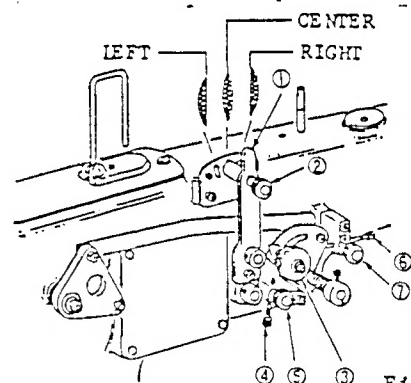

Fig. 16
To set the selector lever (1) in desired setting, pull back knob (2), Fig. 16, and move selector lever (1) to either left or right until the selector lever pin clicks into the hole in the needle position plate.
Stop screw is used to control the width of wider zigzag stitch and is locked in position with set screw (5) after setting to maximum width desired. (Fig. 16)
To set the machine for constant width zigzag stitch, tighten lock nut (3) shown in Fig. 16.